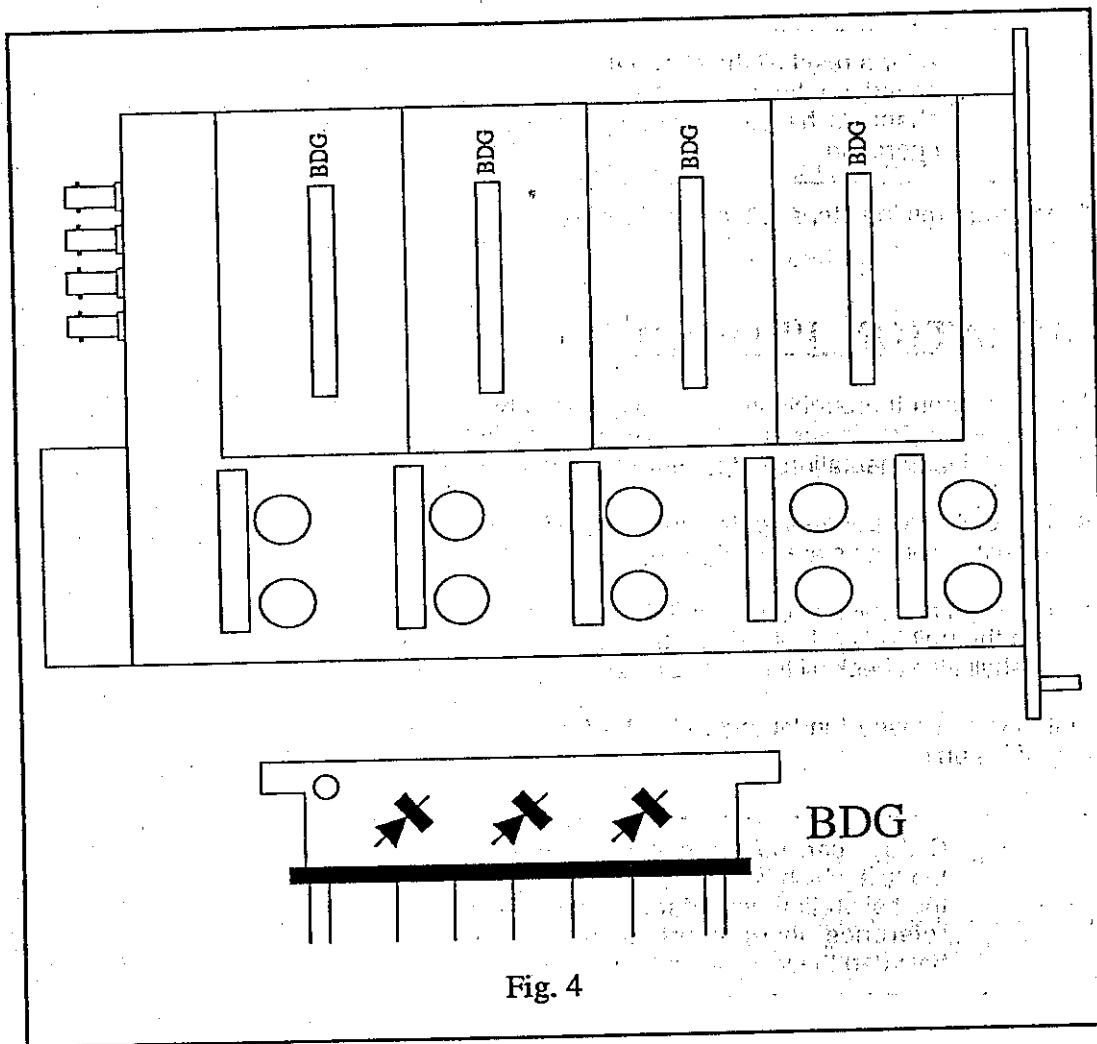

Fig. 4
A large module (labelled F in the figure) is conspicuous on the Board. This is the High-Voltage block housing the four multipliers of the channels and bears a "High-Voltage Danger" sign. The cover is fixed to the base through several screws; remove them and the cover. The four multipliers will appear as shown in figure 4 with the channel 0 multiplier on the right. All the HV components are encapsulated in a silicon black rubber and only the DIODE BRIDGE labelled BDG in figure 4 is accessible to the user.
4. If the polarity of one or more channels must be changed, extract the module Bdg from its contacts and insert it in the opposite position according to the figure 4.